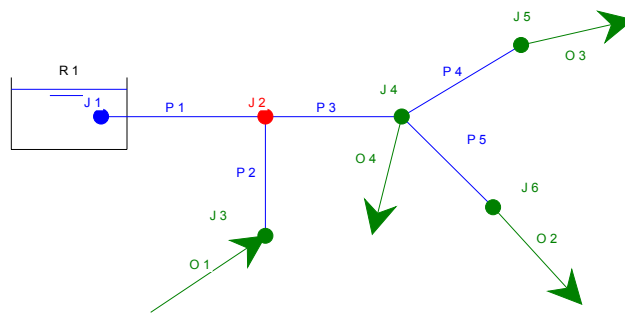

Figure 0.1 Network system
- Construct a pipe system similar to that shown on Figure 0.1 on your design sheet. Figure 0.1 shows a trunk and branch pipe system, as it would appear on the design sheet after compilation; it includes five pipe elements, 3 demands, an upstream reservoir plus an additional supply.